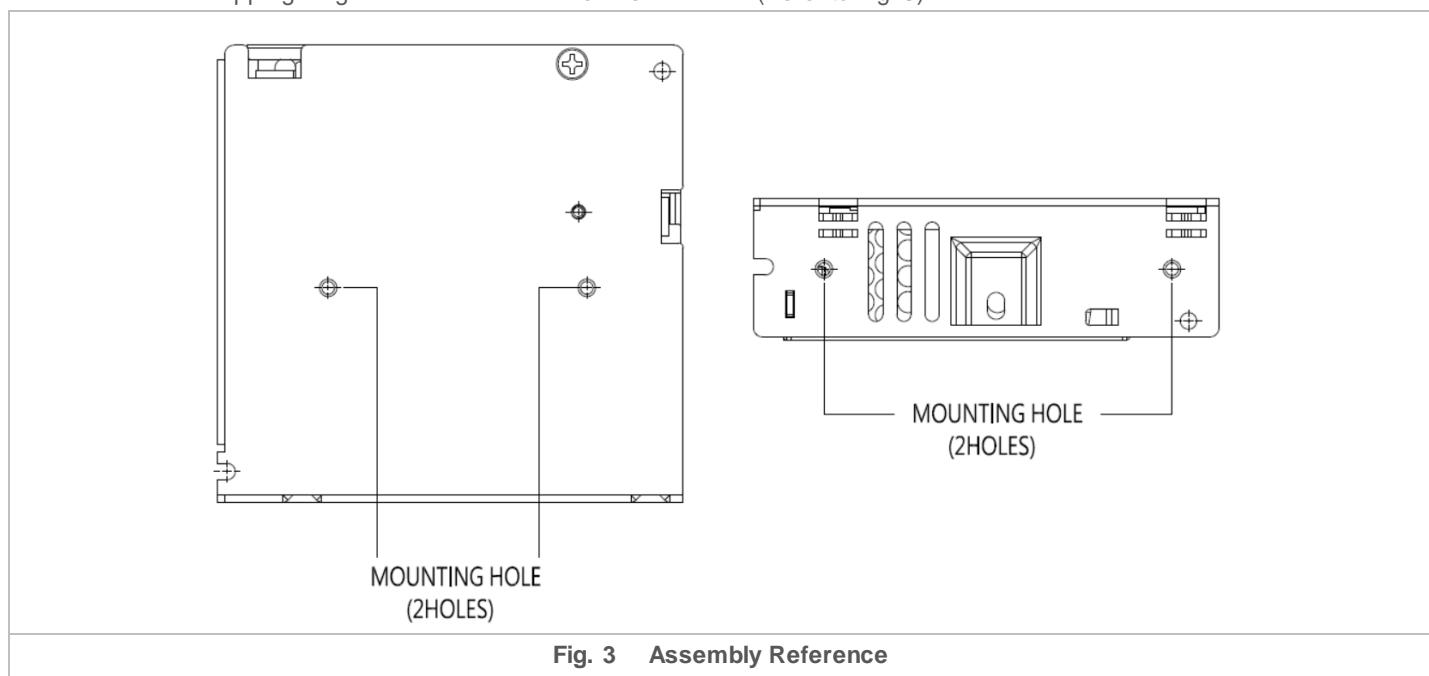

Fig. 3 Assembly Reference
- Use flexible cable (stranded or solid) of AWG No. 18-12. User should calculate and select the suitable wire specification (type/quantity/diameter) according to actual output current. The torque at the Connector shall not exceed 8 Kgf.cm. (6.94 lbf.in). The insulation stripping length should not exceed 0.275" or 7 mm (Refer to Fig. 3).